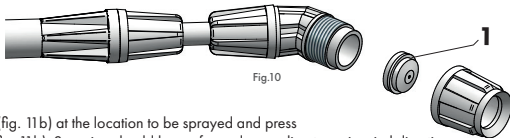
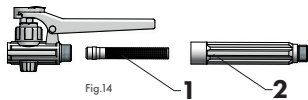

Fig.10
Fig.14
The filter (fig. 14/pos. 1) located on the lance handle (fig. 14/pos. 2) and the spraying nozzle (fig. 10/pos. 1) located at the lance tip (fig. 1/pos. 1) must be cleaned periodically and before any prolonged downtime.
Clogged spraying nozzle on the lance tip (fig. 10/pos. 3).	Unscrew the lance tip and remove spraying nozzle (fig. 10/pos. 3). It can be disassembled into two pieces, cleaned and reassembled.